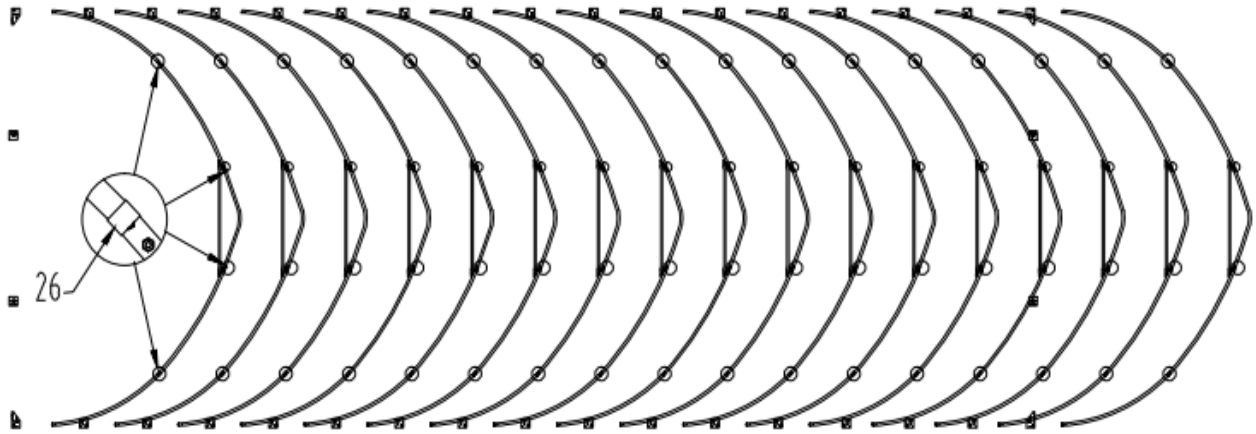

Figure 4
- Lay down all (17) trusses on the ground as Figure 4 when the assembly is all completed and before moving to next step, and then wrap (#26) around the sharp points of the joint to avoid friction between the fabric and the interface, resulting in fabric damage (figure 4).
- (3) Scratch resistant tape (#26)